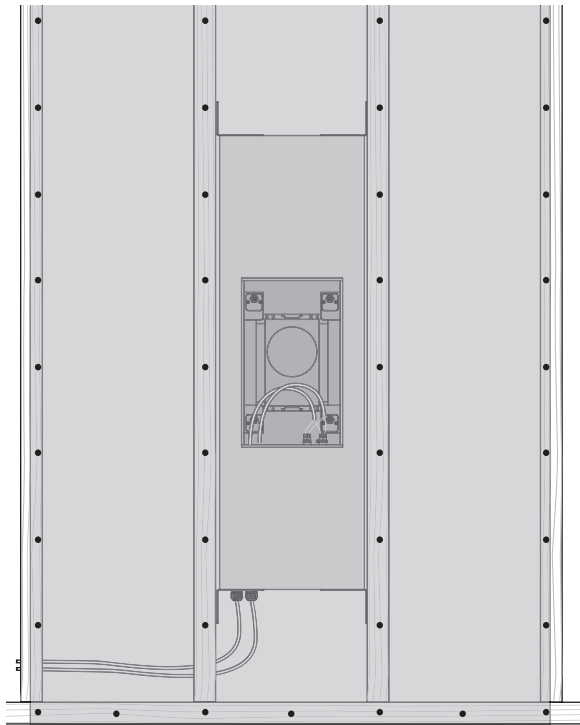

Fig. 6. Drywall Screws.
1. The installation of drywall around the back can location is best done using a single large sheet with the vertical center line centered over the back can vertical centerline (Fig. 6). Alternatively, the cover can be left on, and the drywall installed in four sections around the cover.